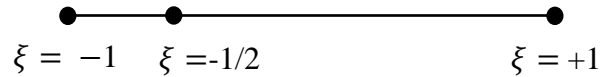

Figure Q3b
- Interpolation functions for the 3-noded bar element shown in **Figure Q3b**.